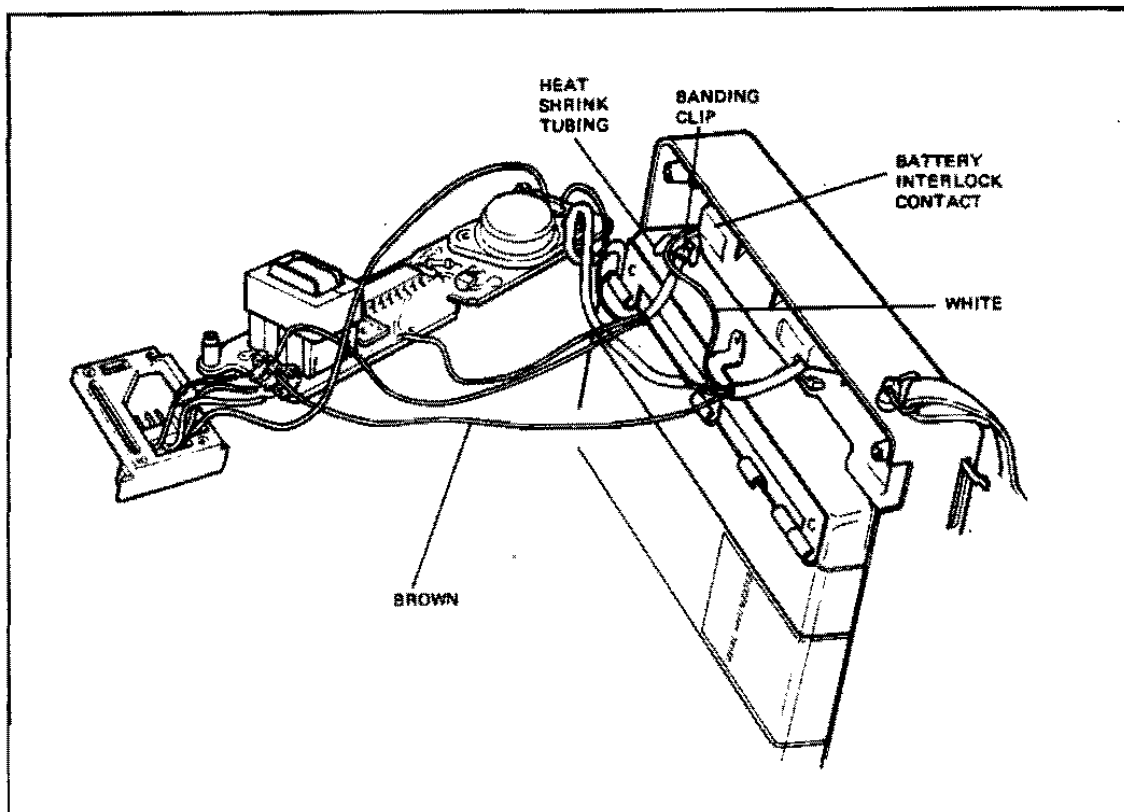

FIG. 4-34 RELEASING THE BATTERY INTERLOCK LEAD
- g. Unsolder the brown lead running to the converter board (Figure 4-34).
- h. Cut the white lead (at the eyelet) running to the battery interlock contact (Figure 4-34).
- c. Solder the brown lead to the converter board (Figure 4-34).
- d. Solder the white lead to the battery interlock contact eyelet (Figure 4-34).